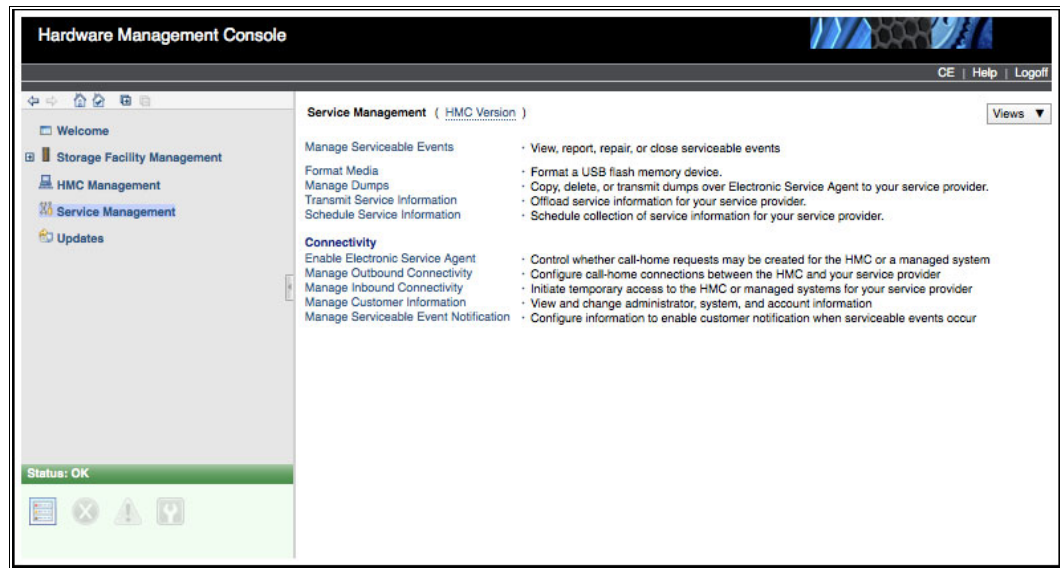

Figure 14-1 HMC Service Management
1. Log in to the Service Management section on the HMC, as shown in Figure 14-1.